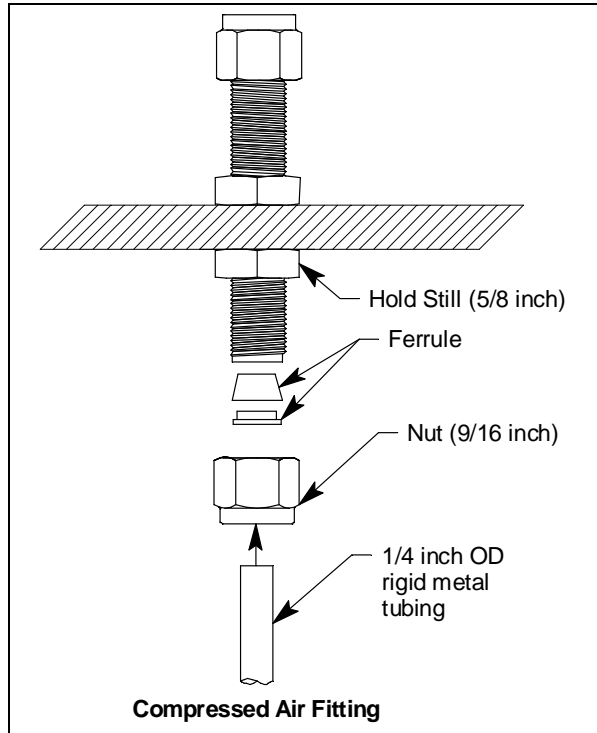

Figure 17: Compressed Air Inlet Fitting Connection
4. Before tightening the nut, be sure to hold the fitting still from the outside so it does not rotate using a 5/8 inch open-end wrench or an adjustable wrench (see Figure 17). While holding the fitting still, firmly tighten the nut with a 9/16 inch open-end wrench or an adjustable wrench so the ferrules crimp onto the sample tubing and make a seal.